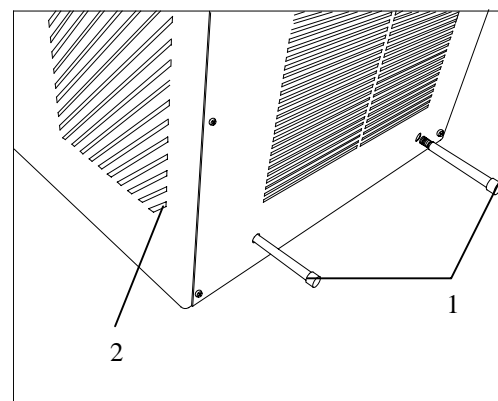

Fig. 4a
- the distance between wall and rear panel is approx. 15 cm. For this, install the distance bolts (fig. 4a.1).
- the suction areas (fig. 4a.2) on either side are kept free.